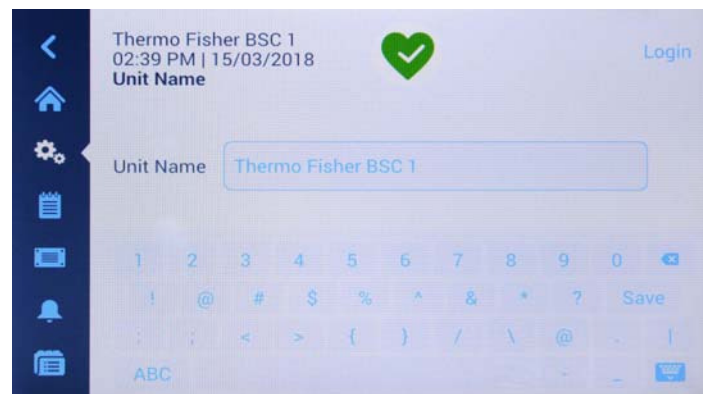

Figure 84 Display Settings: Changing Unit Name Screen
5. Tap on the **Unit Name** field to display a full keypad, as shown in Figure 84 below.